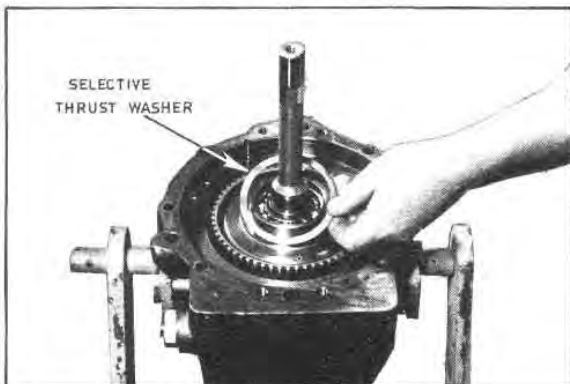

Fig. G27 — The Clutch Cylinder Thrust Washer
13. Remove the thrust washer from the thrust face of the clutch cylinder (Figure G27). Check the washer for wear, and replace if worn.